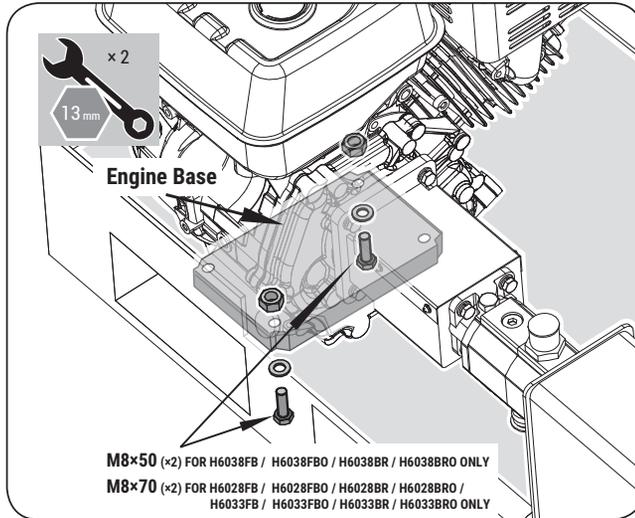

Figure 2a
1. Remove the engine from the pallet. (Remove the two bolts and nuts, See **Figure 2a.**)